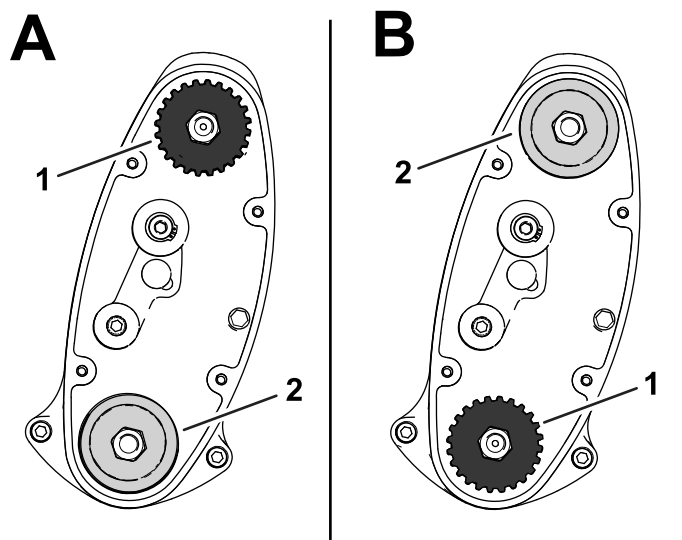

Figure 16
- **HIGH** position: "A" in Figure 16
- **LOW** position: "B" in Figure 16